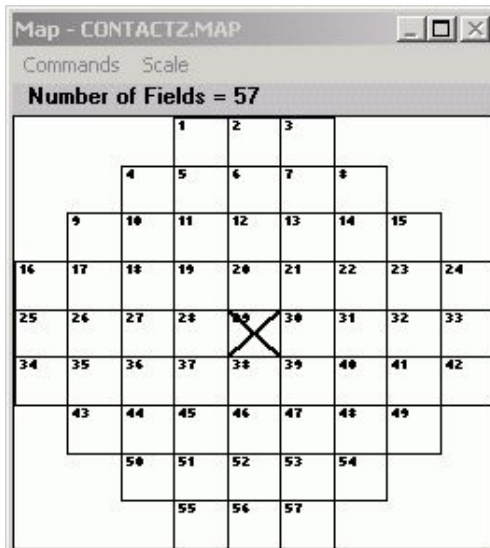

Figure 3-4: Exposure map layout
- **DWL MENU Exposure Map Design:** Click on the “**Draw**” button to see the layout of the map (figure 3-4).